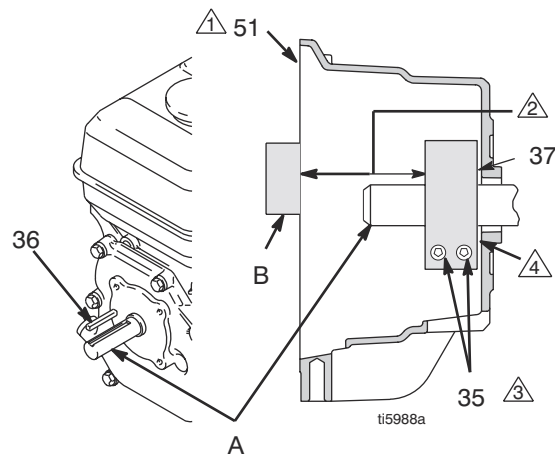

FIG. 9
4. FIG. 9. Loosen two screws (35) on clamp (37),
5. Push screwdriver into slot in clamp (37) and remove clamp.
1. FIG. 9 Install engine shaft key (36)
2. Tap clamp (37) onto engine shaft (A). Maintain dimension shown note 2. Chamfer must face engine.
3. Check dimension: Place rigid, straight steel bar (B) across face of clutch housing (51). Use accurate measuring device to measure distance between bar and face of clamp. Adjust clamp as necessary. Torque two screws (35) to 125 ± 10 in-lb (14 ± 1.1 N·m)
4. Install armature (38) on engine drive shaft.
5. Install four screws (35) and lock washers (34) with torque of 125 in-lb.